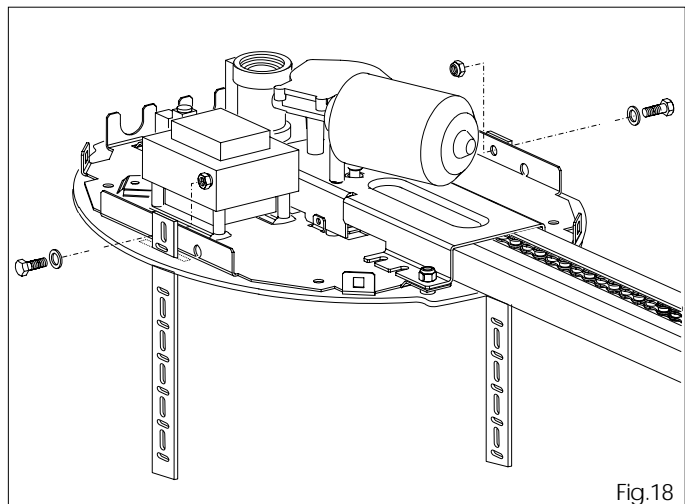

Fig.18
- 6.9 Fit the supplied brackets in the slots and secure the operator with the nut (fig. 18).